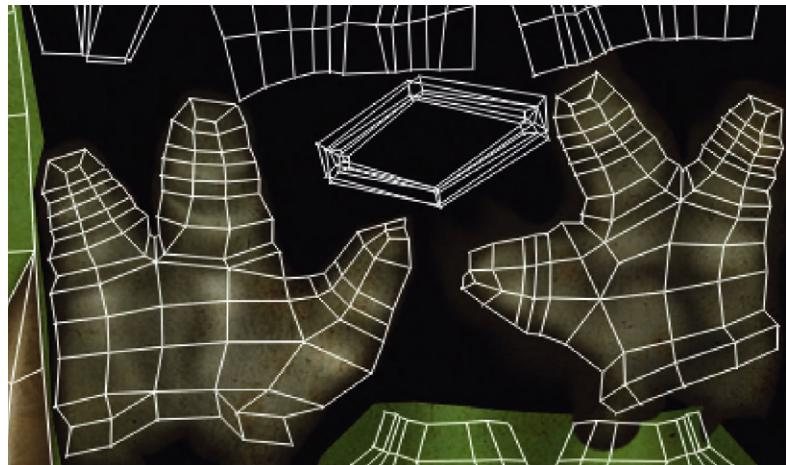

FIG. 6.44 Laying out hands with additional colors and faux AO.
Step 13: Repeat steps 8–12 for areas like the hand. Remember the trick of the fake AO using Layer Styles. The final results should look like Fig. 6.44.